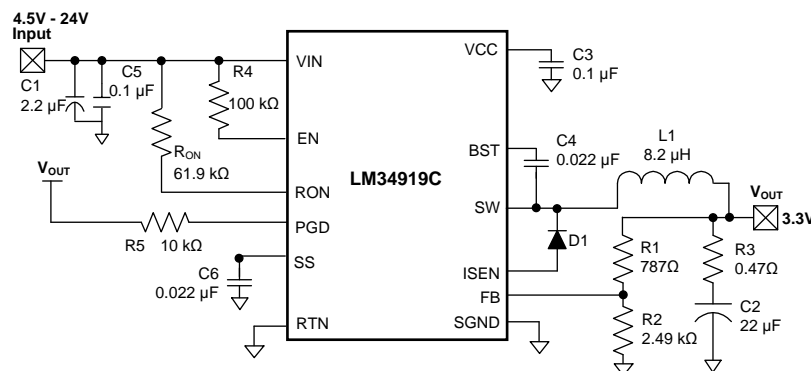
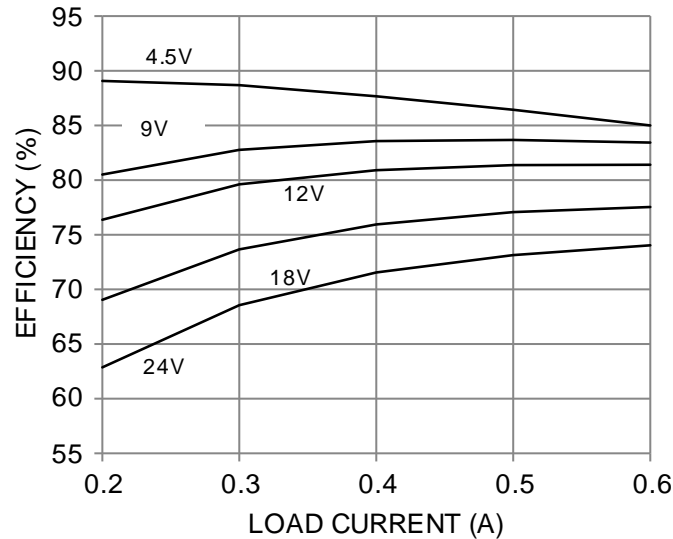
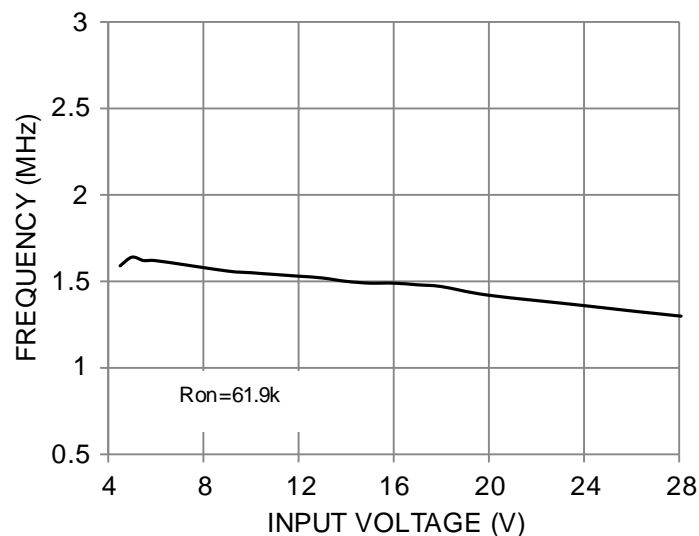
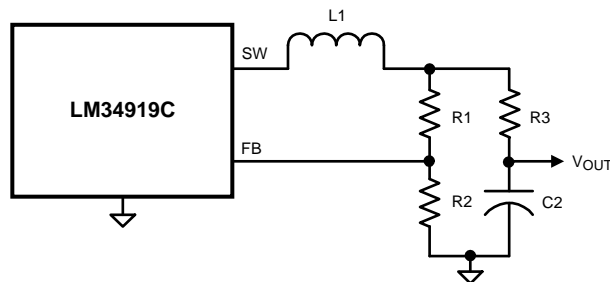

Figure 9. Example Circuit
Figure 10. Efficiency (1.5 MHz, $V_{OUT} = 3.3\text{ V}$)
Figure 11. Frequency vs. V_{IN} ($V_{OUT} = 3.3\text{ V}$)
Figure 14. Alternate Minimum Output Ripple Configuration
The final circuit is shown in Figure 9, and its performance is shown in Figure 10 and Figure 11.
c) Alternate minimum ripple configuration: The circuit in Figure 14 is the same as that in Figure 9, except the output voltage is taken from the junction of $R3$ and $C2$. The ripple at V_{OUT} is determined by the inductor ripple current and $C2$'s characteristics. $R3$ slightly degrades the load regulation because the feedback resistors are not directly connected to V_{OUT} . This circuit may be suitable if the load current is fairly constant.